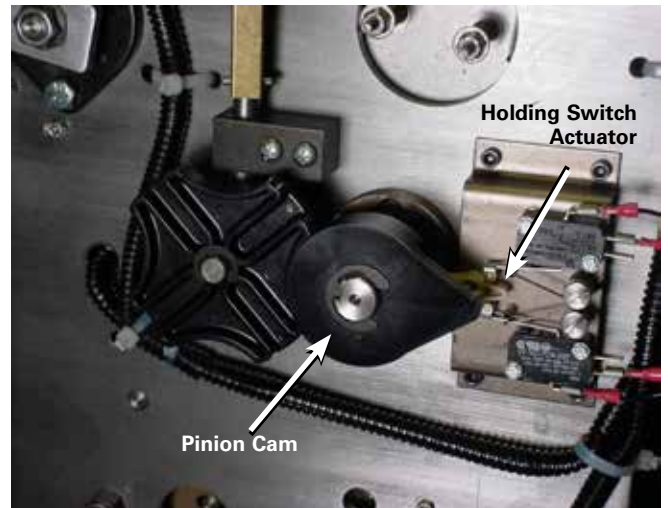

Figure 24. Neutral position for position indicator pinion cam and holding switch.
- C. The pinion cam is pointing to the right over the holding switch actuator. See Figure 24.